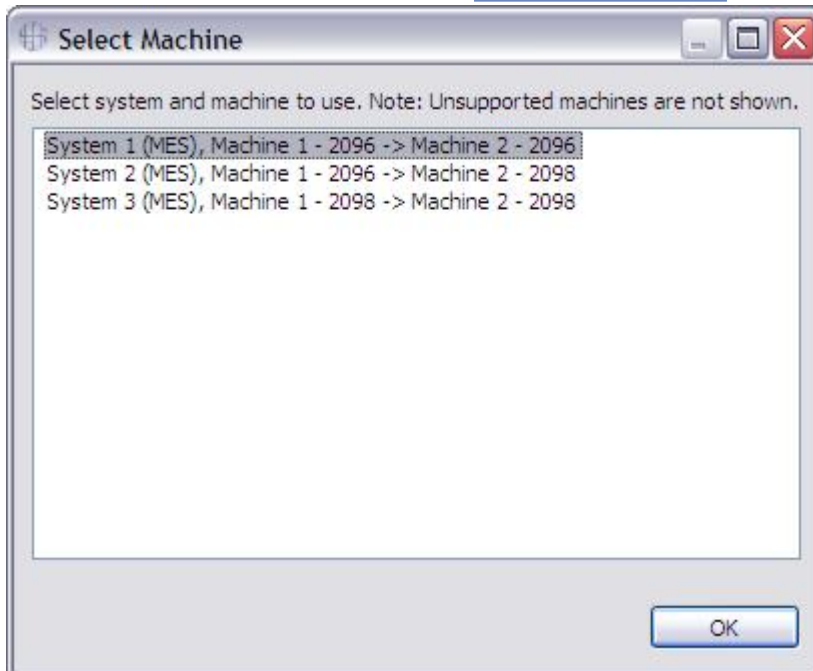

Figure 10. Select Machine window
4. If the Select Machine window opens, this means your CFReport file references multiple systems. You need to select the appropriate system. Figure 10 on page 12 shows the Select machine window.